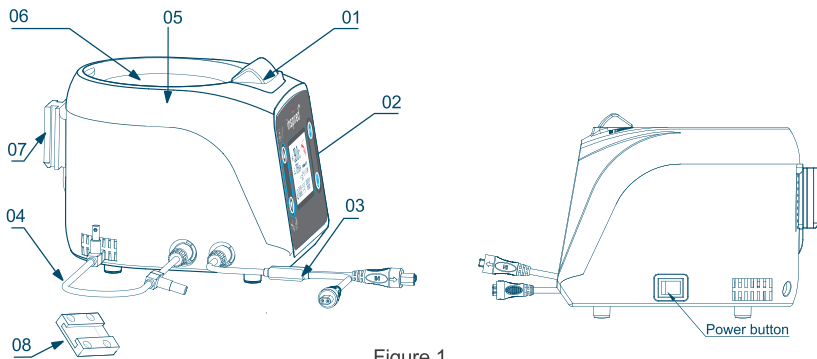

Figure 1
1.3 Product Overview (See figure 1)